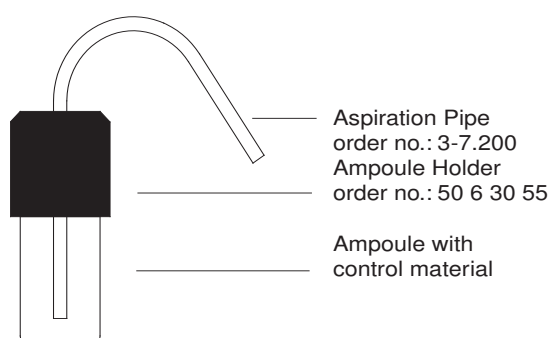

Figure 15 Aspiration Pipe
For input of Quality Control material from ampoules, the use of a special **ESCHWEILER Aspiration Pipe** (order no. 50 6 30 50) is necessary (see figure 15). Aspiration Pipes are included in the accessories of the CombiLine.
- Put the Aspiration Pipe with Ampoule Holder over the ampoule as shown in the figure 15 and immediately introduce the control into the analyser according to the following instruction.